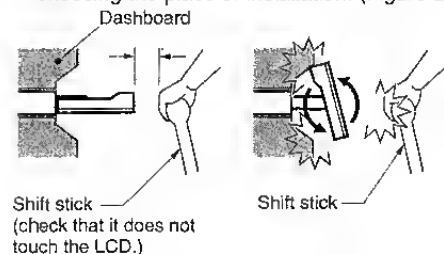

Figure 2
2. This model is used with the LCD panel slid forward (shell loading system). On some types of cars, the LCD panel may touch the dashboard or shift stick. In which case it cannot be installed. Check that the set will not hamper operation of the shift stick before choosing the place of installation. (Figure 2)